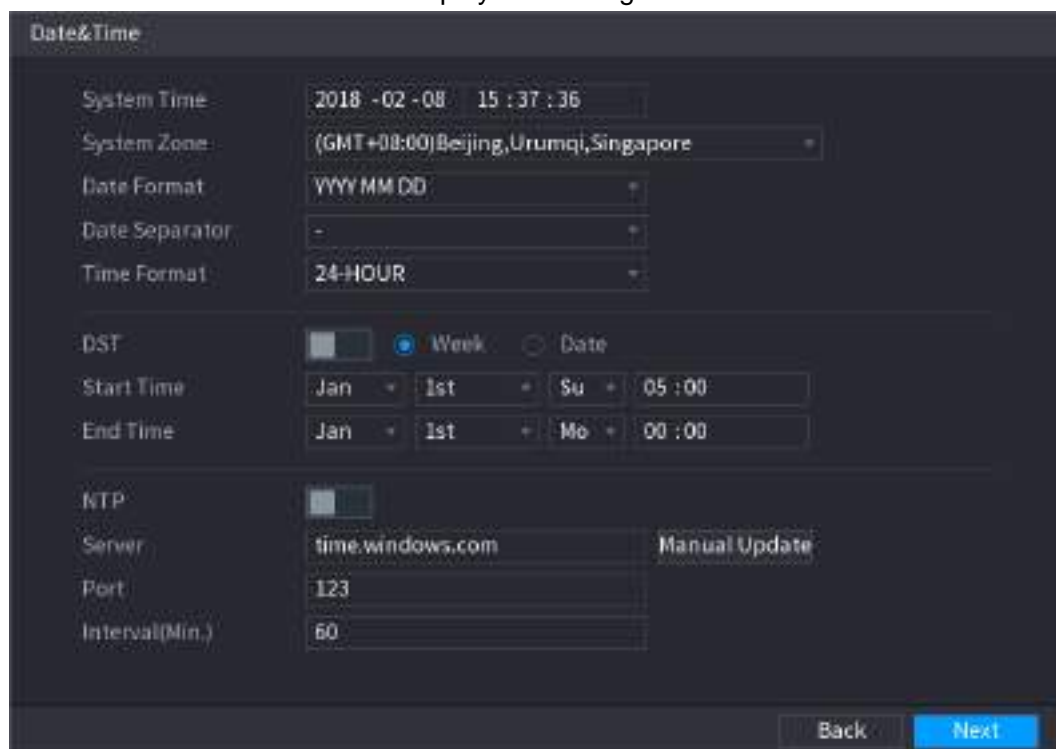

Figure 5-17
Step 1 After you have configured the general settings, on the **General** interface, click **Next**. The **Date&Time** interface is displayed. See Figure 5-17.